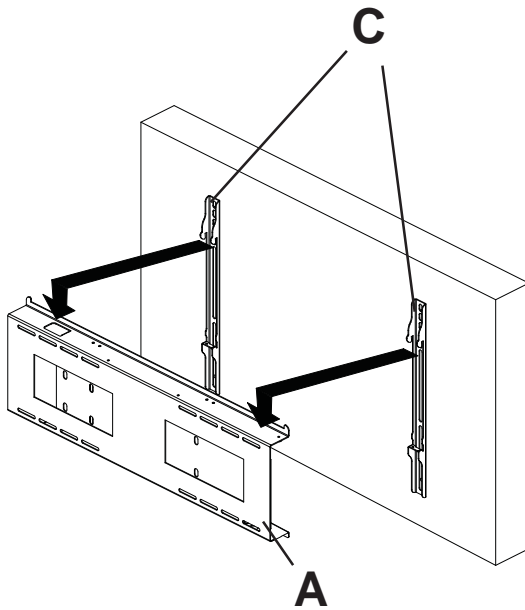

fig 5.1
- 5 Hook adapter brackets (C) onto wall plate (A) as shown in fig. 5.1. Then slowly swing screen in as shown. Tighten M5 x 25 mm socket pin serrated washer head screws (F), using security allen wrench (G), clockwise at least six times to prevent screen from being removed as shown in fig. 5.1. Screen can be adjusted horizontally if desired.